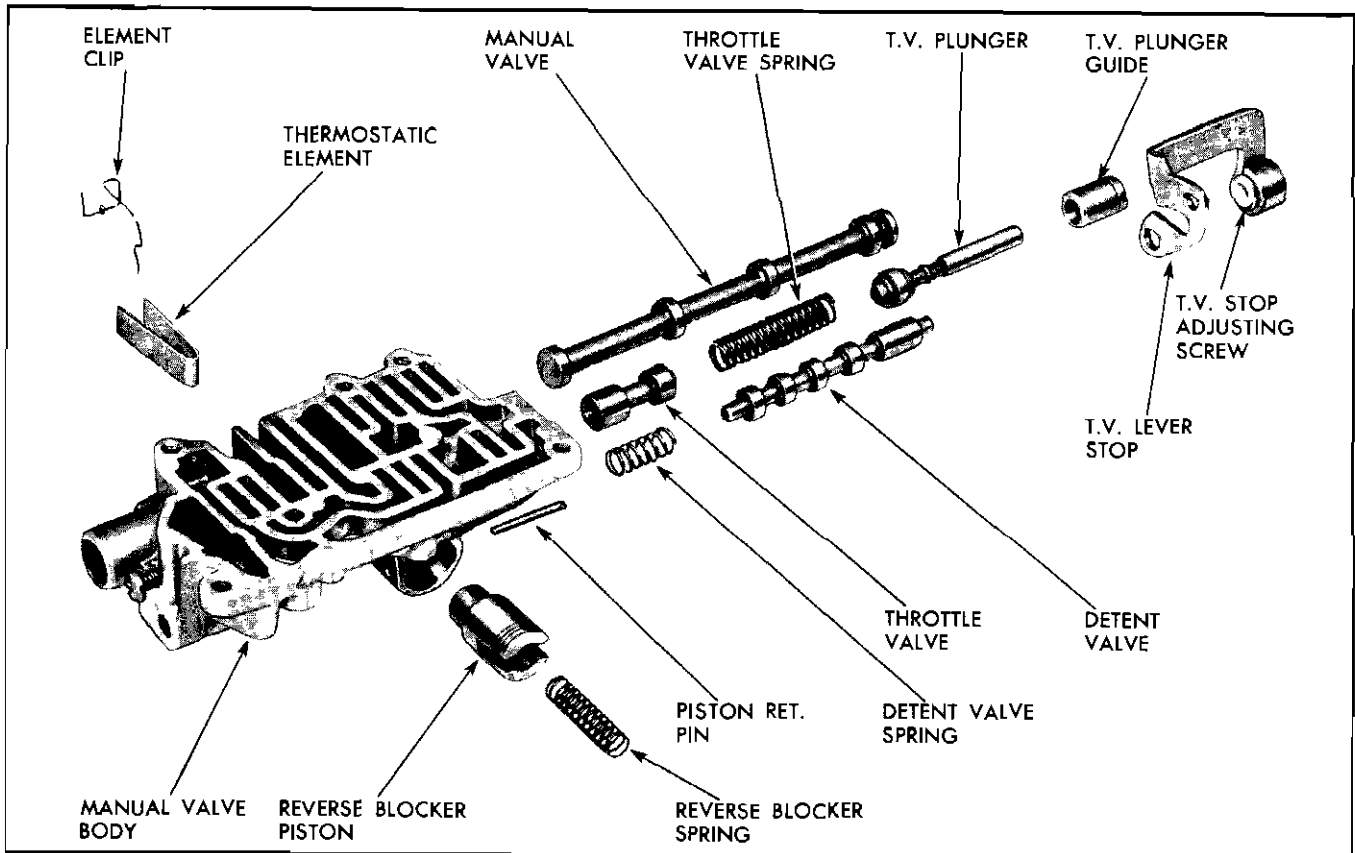

Fig. 138 Manual Valve Parts—Exploded
1. Remove two screws retaining the TV lever stop and remove stop (Fig. 138).
1. Install reverse blocker piston, slotted end out (Fig. 138).